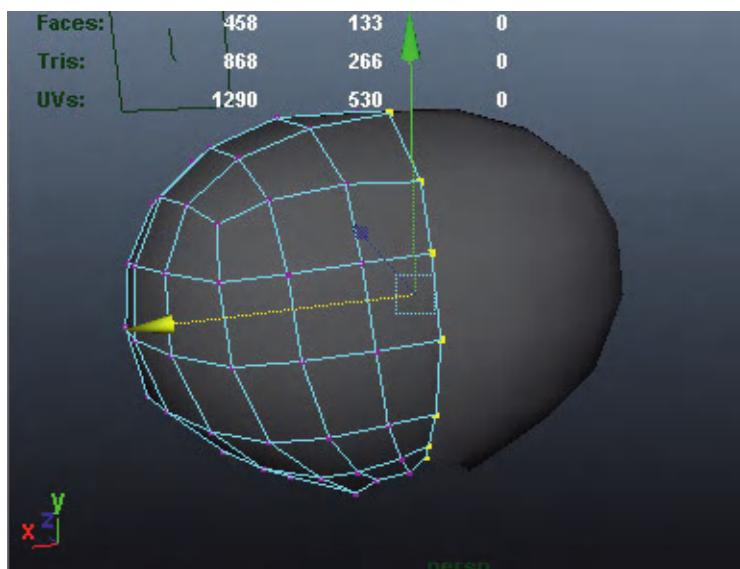

FIG 4.42 Snapping vertices across the back of the head (those that might have gotten inadvertently moved in the previous steps) to the axis of symmetry.
Step 60: Clean the seam. Especially across the back of the head where we have been using the Sculpt Geometry Tool and the Soft Modification Tool, select the vertices that should be right down the center of the head (along the axis of symmetry). Using the Move Tool and holding x (snap to grid), move the vertices in just x to snap them to the middle (Fig. 4.42).